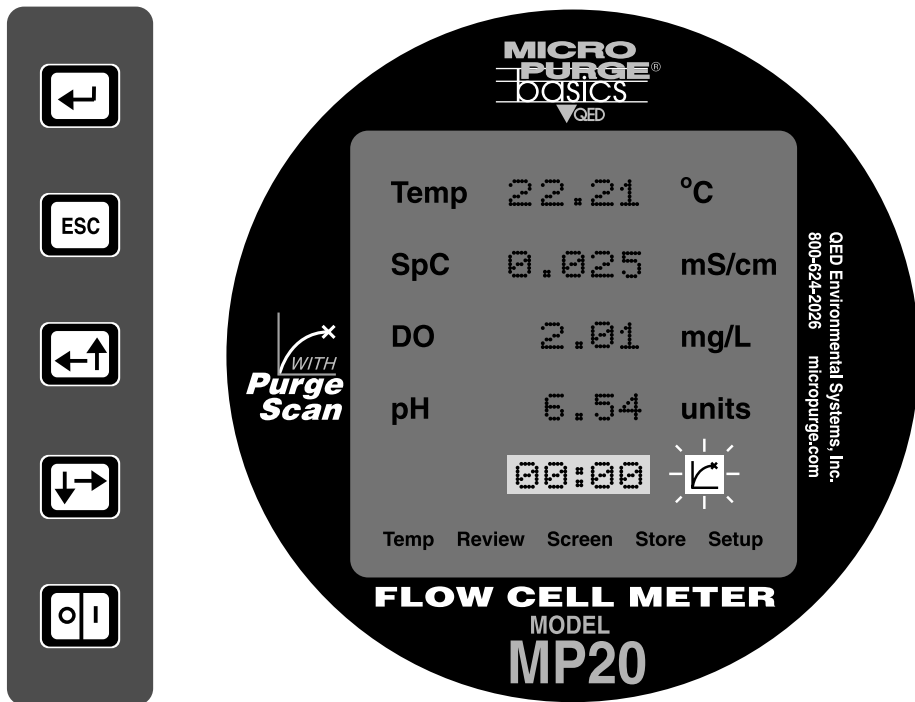

Figure 7
- When the final purge rate is achieved, record the ID value and pressure settings from the MP10/MP15 controller, then initiate PurgeScan on the MP20 Flow Cell by pressing the "RIGHT" arrow key once to highlight "STORE", then pressing "ENTER". This begins a PurgeScan stabilization cycle, starting at 00:00 elapsed time at the bottom (See Figure 7 Below) of the MP20 display, including automatic storage of key data frames. If it is desired to restart PurgeScan, press "ESC", then "RIGHT" arrow and "ENTER" again.